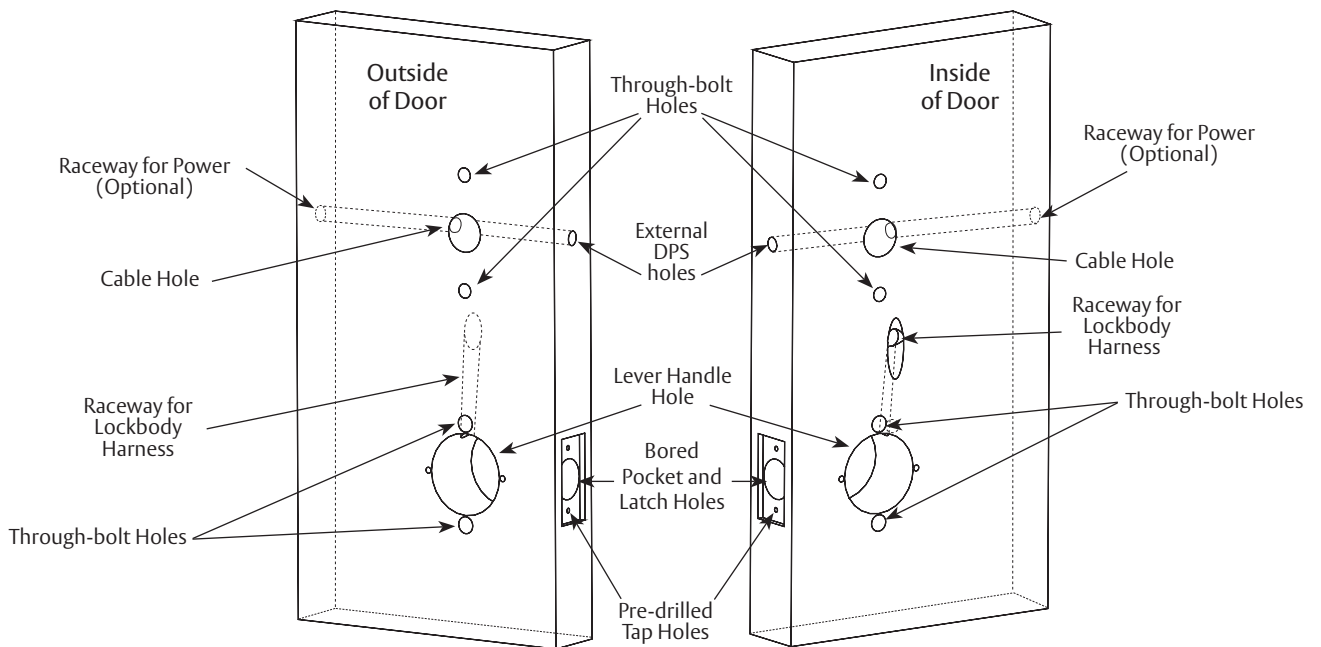

Fig. 2
- b. Prepare door according to appropriate template. (Fig. 2) See website www.intelligentopenings.com.